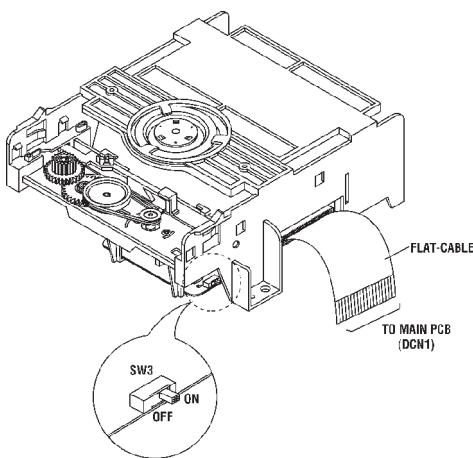

Fig. 1-4
- 2) Switch SW3 (on Deck PCB) to "OFF" before disconnecting the flat cable (DCN1 inserted into Main PCB see Fig. 1-4).
- 4) Insert flat cable into DCN1 (Main PCB) and switch SW3 (on deck PCB) to "ON". (see Fig. 1-4)